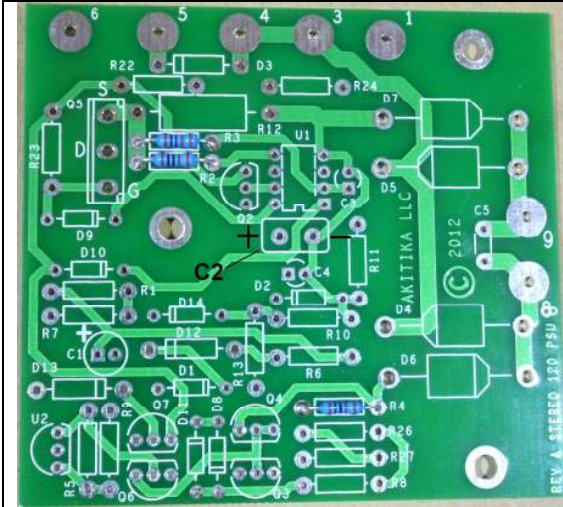

Figure 2-C2 location and polarity is missing in Rev A boards. Shape is also misleading.
- a. The Rev A PCB's have a silk screen error in the drawing for C2. The shape is shown as a rectangle; there is no "C2" designation, and no polarity designation. Use Figure 2 to locate and properly install C2. The bottom of C2 should be about $\frac{1}{4}$ " above the PCB to assure no connection to the trace that runs between its terminals.